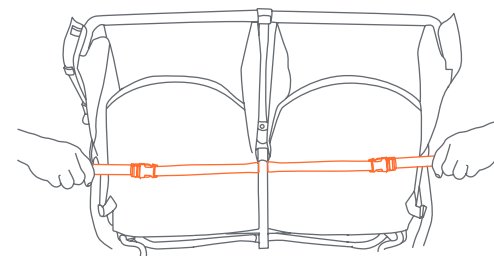

Fig. 17b
- Adjust the seat back to its most upright position (Fig. 17b).